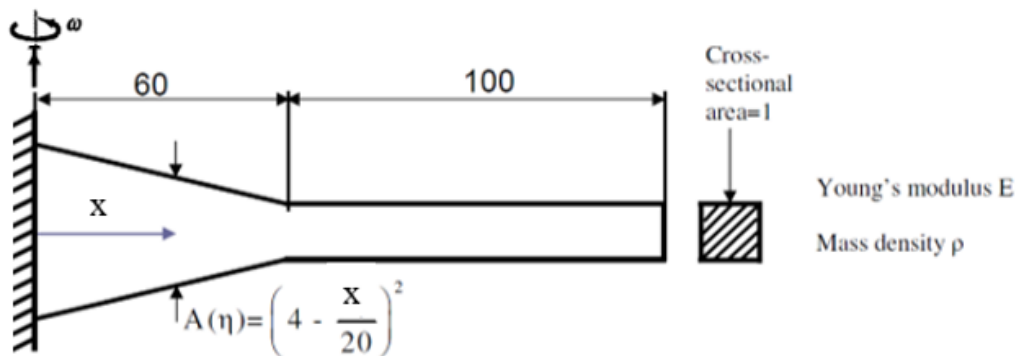

FIGURE 1A
- 1A.** The component shown in **figure 1A** is spinning at ω rad/sec. Assuming 1D structure, **05 M**